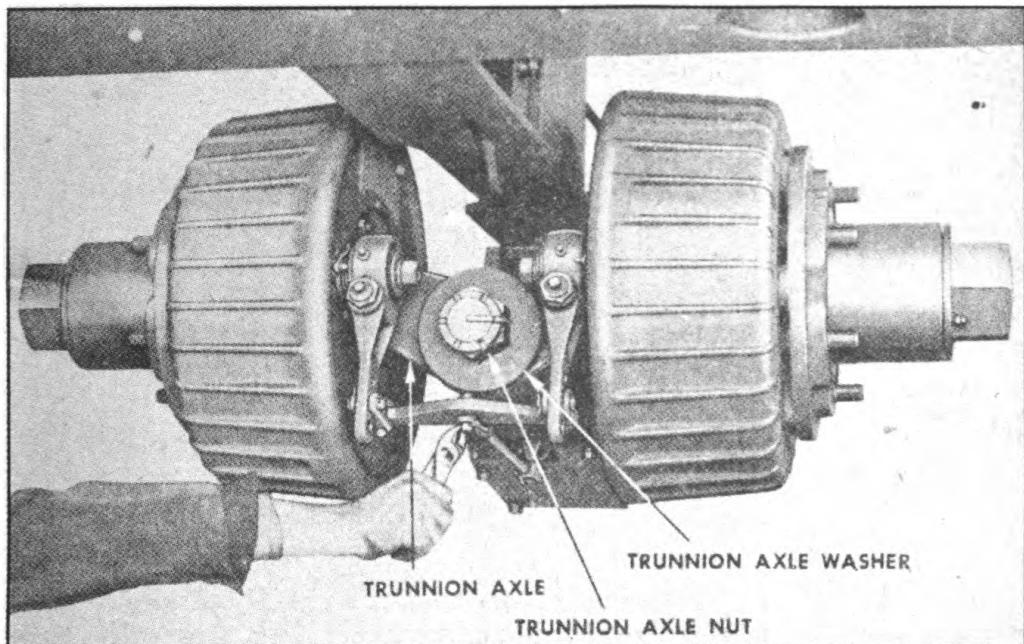
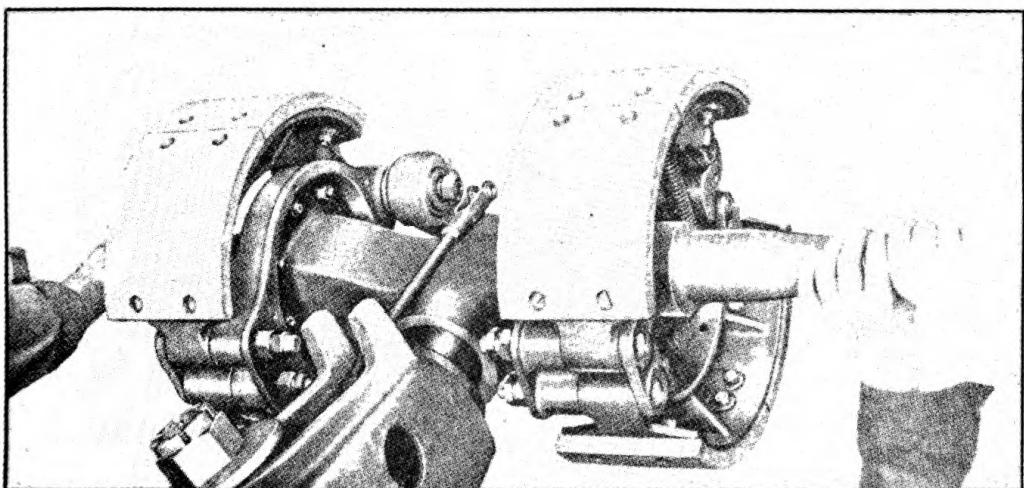

FIGURE 14. TRUNNION AXLE
FIGURE 15. TRUNNION AXLE REMOVAL
a. *Removing trunnion axle* (Figure 14).—(1) NOTE: Removal procedure for all four trunnion axles is identical. All four are interchangeable from front to rear, right to left.
(2) If hoisting facilities are not available, then hydraulic jacks must be used. Place jacks under rear crossmember and jack trailer up until wheels clear the ground at either front or rear of rocker beam.
(3) Remove the two inner wheels from the hub assembly (paragraph 2, section XIV).
(4) Remove outer wheel and hub assembly in one unit (paragraph 3, section XIV).
(5) Remove clevis pin from equalizer (Figure 14).
(6) Remove the two cotter pins from equalizer links.
(7) Remove cotter key and nut from rocker beam.
(8) Slide the complete axle assembly off rocker beam (Figure 15).